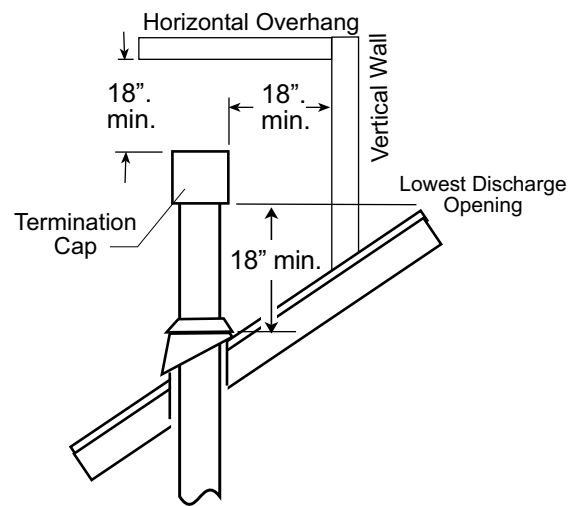

Figure 16.
- **Vent Terminus Clearance:** In no case shall any discharge opening on the cap be less than 18 in. (457 mm) horizontally from the roof surface. See fig. 16.